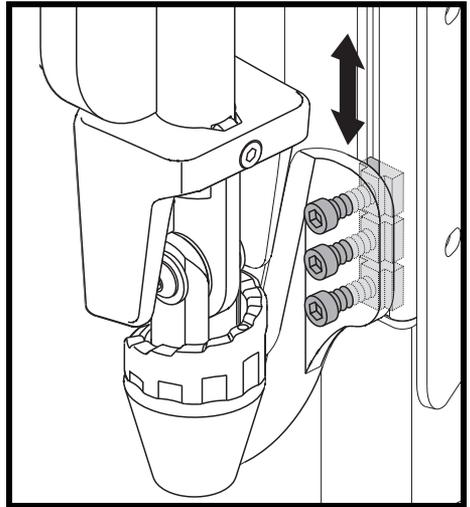

Figure 8. Cantilever Armrest Height Adjustment on power recline
3. Slide the armrest up or down to the desired height. **See figure 8.**